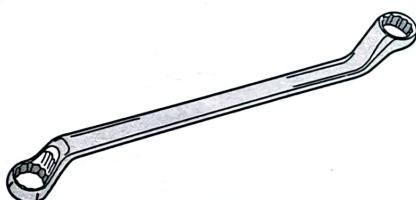

Fig. 1.32. (b) Ring spanner.
3. Combination spanner : It is also known as open-ring spanner. A combination spanner is a double-ended spanner with one end like an open-end spanner and the other end like a ring spanner. Both ends generally fit the same size of nut or bolt. [See Fig. 1.32 (c)]